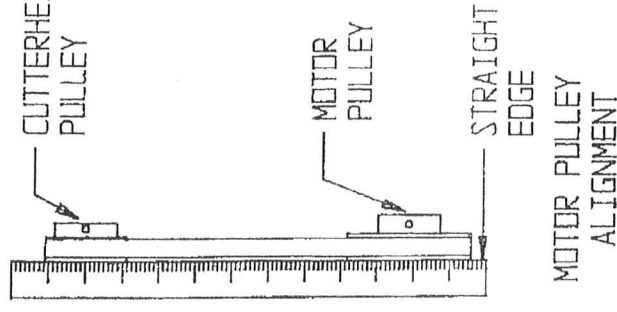

Fig. A-3
3. To fasten the motor, install from the top (1) one of the 3/8" - 16x1-1/4" hex head bolt in each corner of the motor's base. Secure by placing a flat washer, a lock washer, and a nut on each of the bolts. Leave these bolts loose for now.
4. Check to see that the motor pulley lines up with the cutterhead pulley, see fig. A-3 (if so proceed to next step). If the pulleys don't line up, loosen the bolts at each end of the motor mount bars and slide them to align the motor pulley with the cutterhead pulley. When the two pulleys are aligned retighten the bolts.